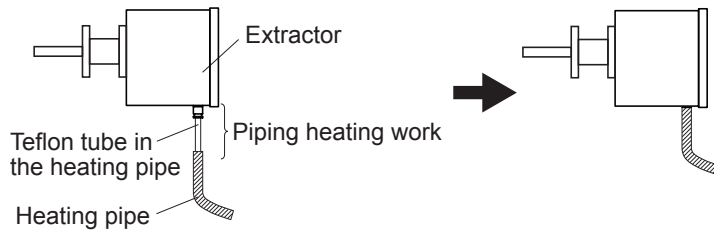

Fig. 5-6
- (7) When using the heating pipe, perform heating work or thermal insulation treatment as required (Fig.5-6). Otherwise, condensation may be caused at the outlet of the extractor.